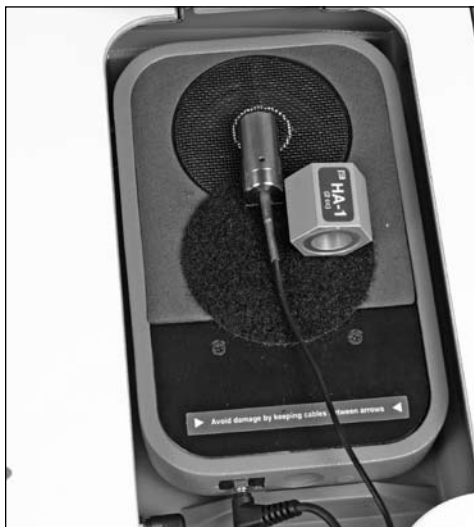

Figure 3.2.1—Normal leveling setup
3. Place the coupler that you will be using inside the chamber next to the coupler microphone. This is necessary because of the small volume of the FP35 internal sound chamber, and measurement results, particularly in the high frequencies, could be affected by the space the coupler takes up inside the chamber. See Figure 3.2.1.